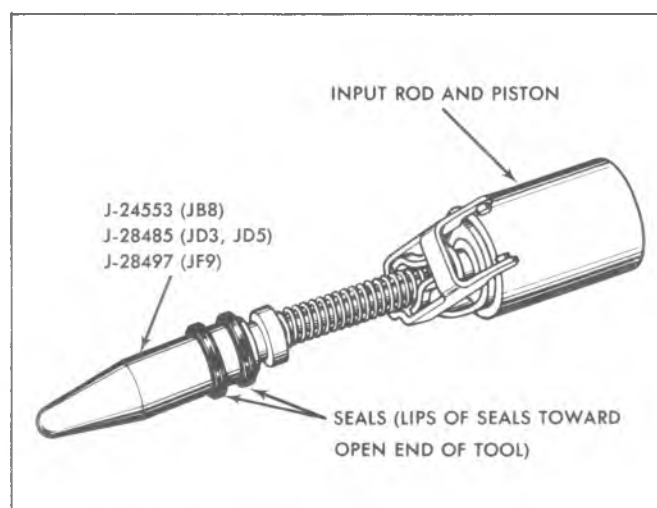

Fig. 5-12E--Installing Input Rod Seals
5. Lubricate the input rod end, **NEW** input rod seals and Seal Installer with clean power steering fluid. Slide the seals on the tool with the lip of the cups toward the open end of the tool (fig. 5-12E).